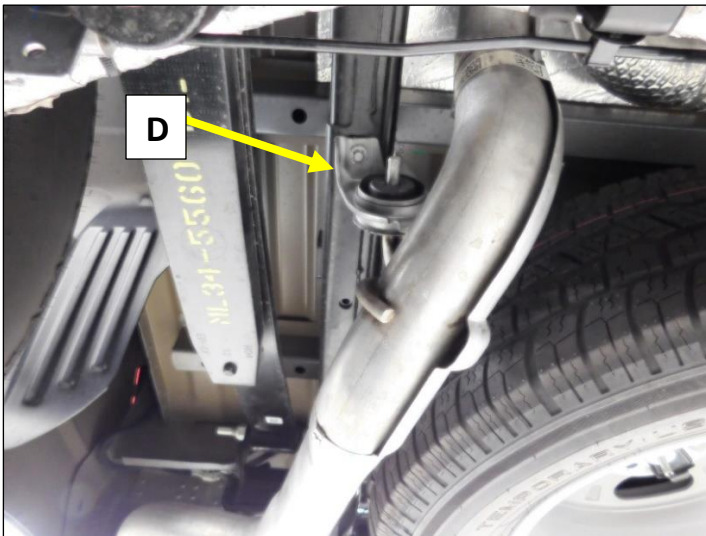

Figure 8
6. Install the right tailpipe frame hanger (**D**) on to the tailpipe hanger rod. Align the bolt holes to the clip nuts in the frame rail and install the bolts. **Fig.8**